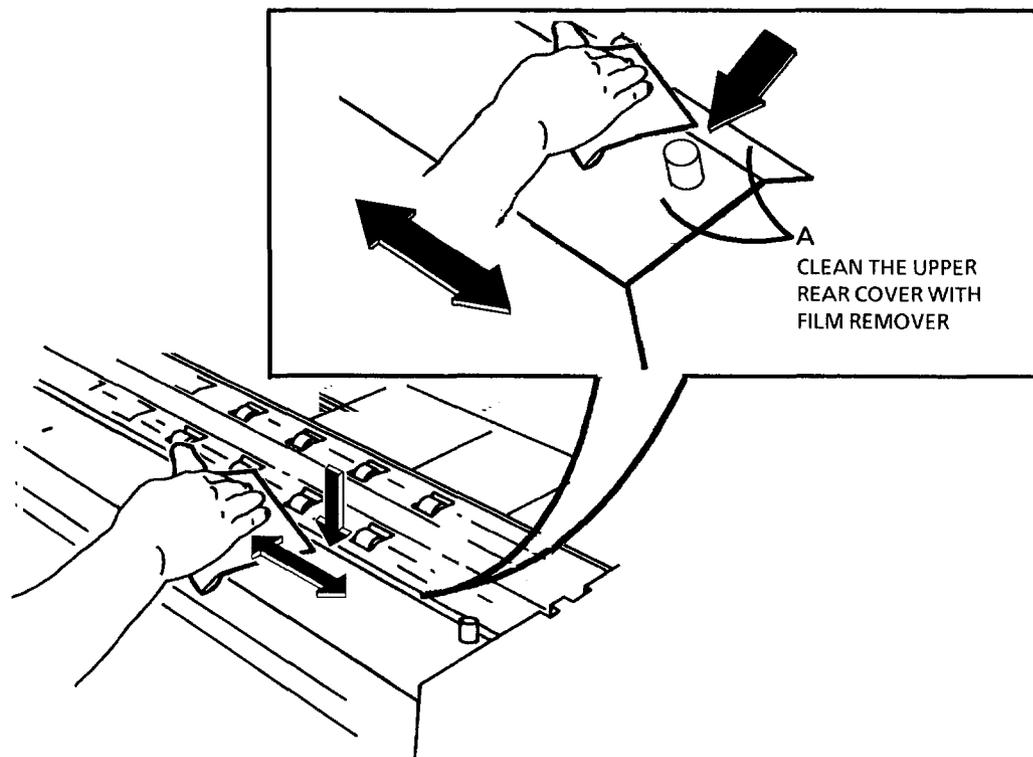

Figure 23. Install the Plastic Strips on the Lower Rear Cover
43. (FIGURE 23): CLEAN THE UPPER REAR COVER.